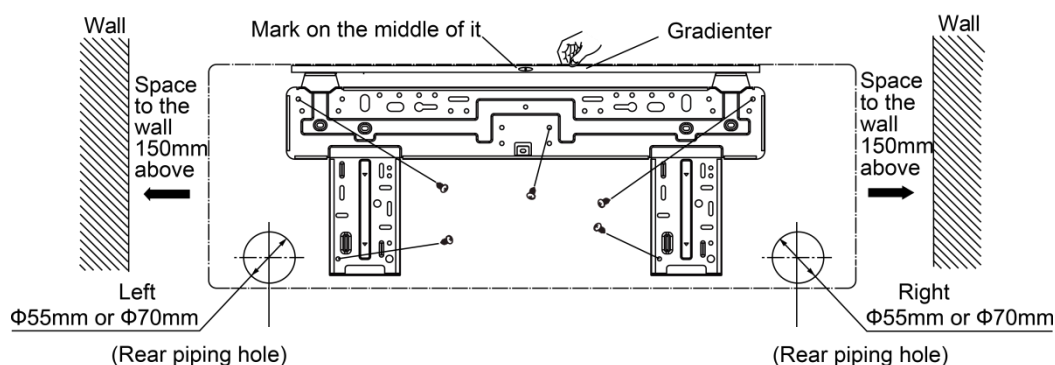

Fig 4.2
- (1) Find the horizontal position by the seton method; since the drainage pipe is on the left side, it is necessary to adjust the rear panel to make its left side a little bit lower.
- (2) Fix the rear panel on the wall by bolts.
- (3) After installing the rear panel, pull it by hands to check if it is secured enough. The hang panel should support the weight of an adult (60kg), and the weight shared by every bolt should be fairly even.
- (4) The diameter showed in Fig.4.2 is 65mm.
- (1) Make the piping hole (Φ 65mm) in the wall at a slight downward slant to the outdoor side. The center of the hole should be determined referring to Fig.4.2.
- (2) Insert the piping-hole sleeve into the hole to prevent the connected piping and wiring from being damaged when passing through the hole.